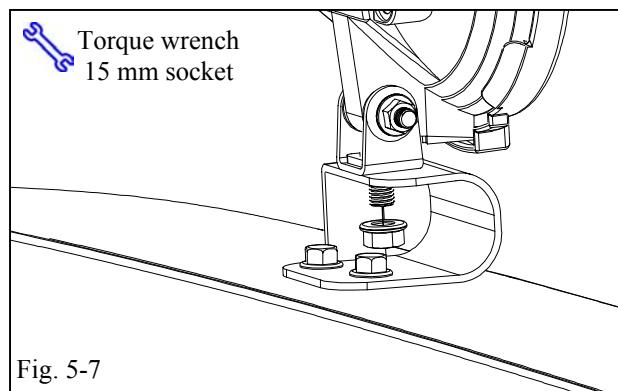

Fig. 5-7
- (r) Remove M10 nut from lamp assembly and attach the lamps to the left and right hand lamp brackets. Tighten each 15 mm nut to 40 lbs-ft. (Fig. 5-7)